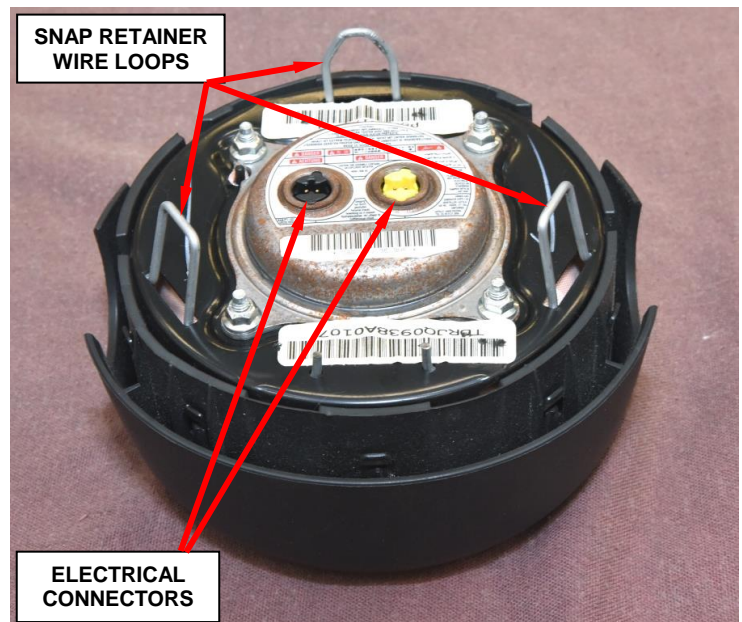

Figure 1 – Airbag Module Electrical Connectors
- b. Insert the long blade (Tip B) of the Driver Airbag Removal Tool (Special Tool # 10187) or the blade of an equivalent prying tool into either of the upper (two o'clock or ten o'clock) access holes of the steering wheel hub rear trim cover, being certain to place the blade of the tool on the inboard (steering wheel hub) side of the airbag snap retainer wire loop (Figure 1).
4. Separate the driver airbag module from the steering wheel and disconnect the two airbag electrical connectors (Figure 1) and the one horn electrical connector. Then set the driver airbag module aside.